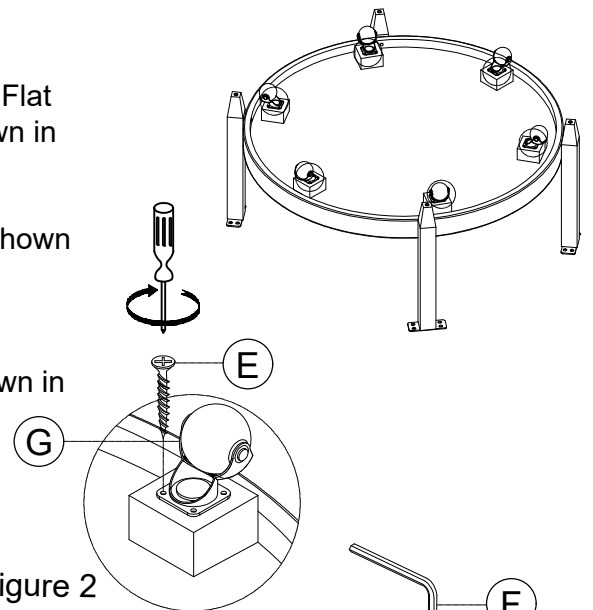

Figure 2
3. Attach the Casters (G) to the bottom shelf using Screw (E).As shown in Figure 2 .